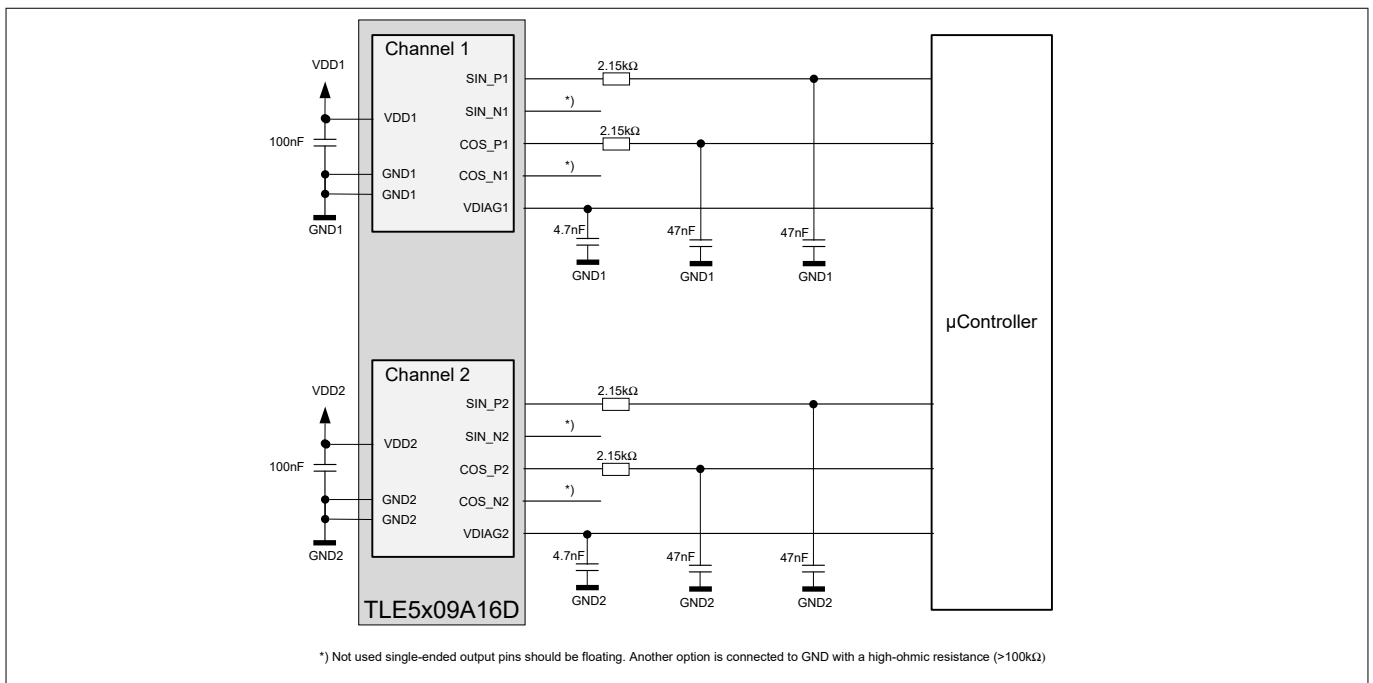
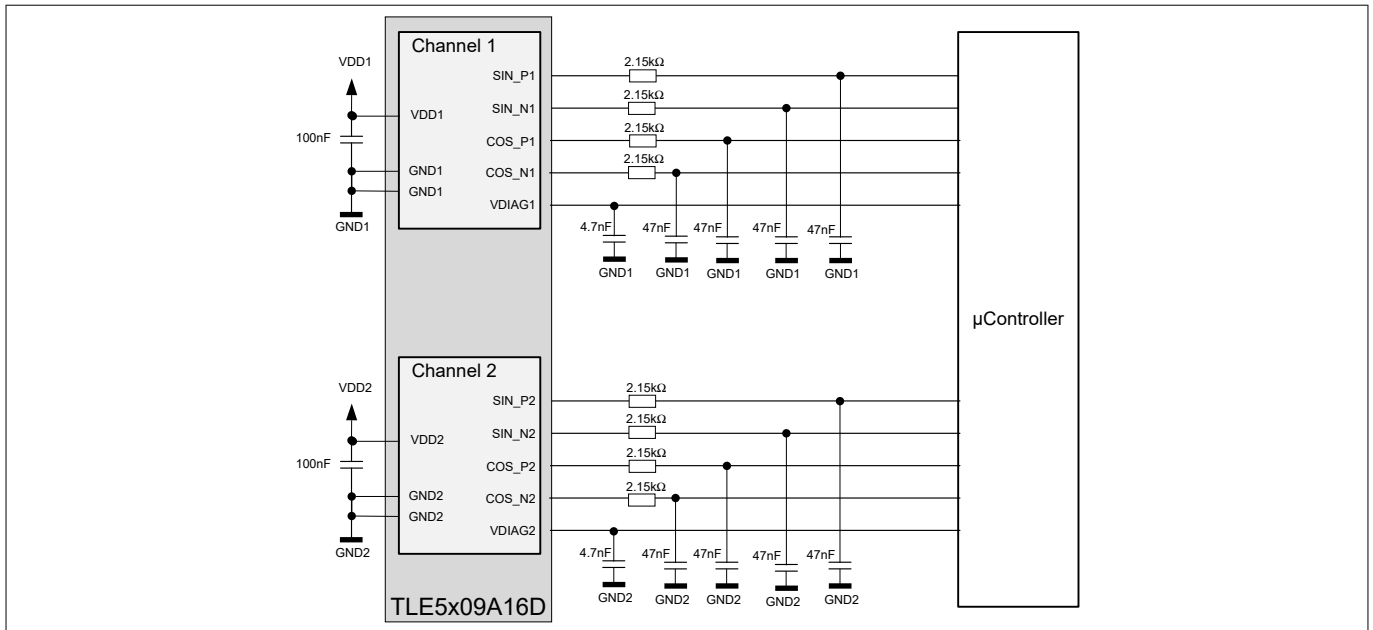

Figure 10 Application circuit for the TLE5x09A16(D) in single-ended output mode; positive output channels used
Figure 11 Application circuit for the TLE5x09A16(D) in differential output mode
The TLE5x09A16(D) sensor can be used in single-ended or differential output mode. Figure 10 shows a typical application circuit for the TLE5x09A16(D) in single-ended output mode using the positive output channels. For single-ended operation the positive or negative output channels can be used. Unused single-ended output pins should preferably be floating or connected to GND with a high-ohmic resistance (> 100 kΩ). The TLE5x09A16(D) has separate supply pins for the GMR sensor and the AMR sensor. The microcontroller comprises up to 10 A/D inputs used to receive the sensor output signals in differential output mode, illustrated in Figure 11. For reasons of EMC and output filtering, the following RC low pass arrangement is recommended. The RC low pass has to be adapted according to the applied rotation speed. ¹⁾